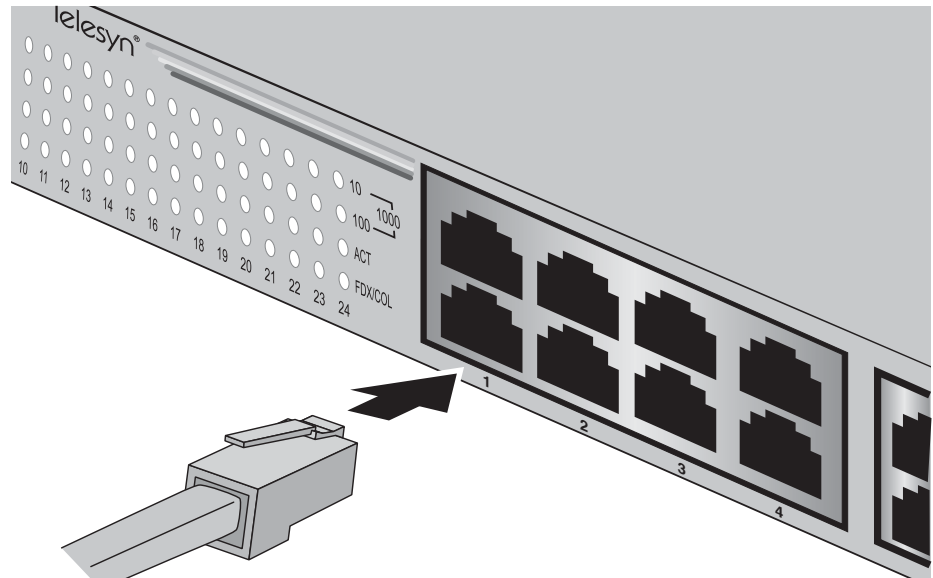

Figure 11 Connecting the Twisted Pair Data Cables
1. Connect the twisted pair data cables to the RJ-45 ports on the switch, as shown in Figure 11.